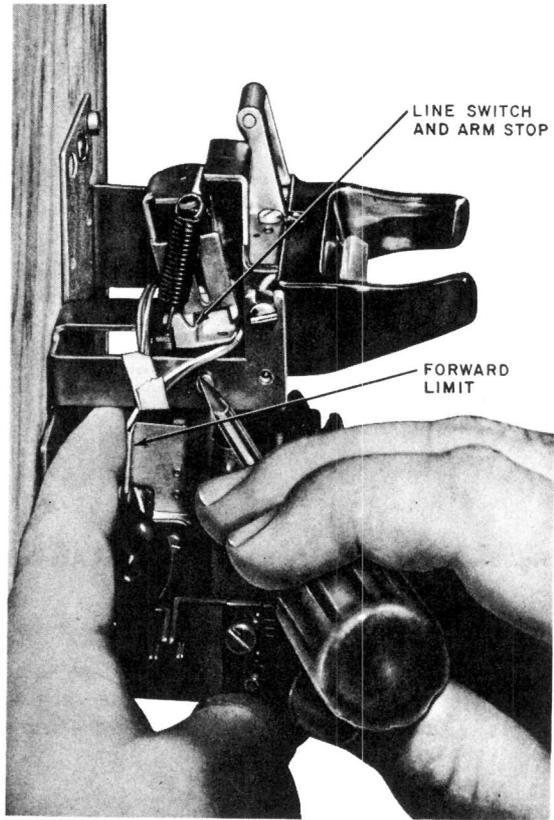

Fig. 11—D-180383 Kit of Parts, Installed on 526B Telephone Set Base
- (1) Remove switchhook assembly from telephone set base and replace with switchhook and plunger assembly from kit of parts. Mount the exclusion switch and switchhook and plunger assembly to the telephone set base making sure the line switch and arm assembly is against the stop (Fig. 11). Position the exclusion switch to
its forward limit (Fig. 11) before tightening mounting screw so switch contact springs can be fully actuated.